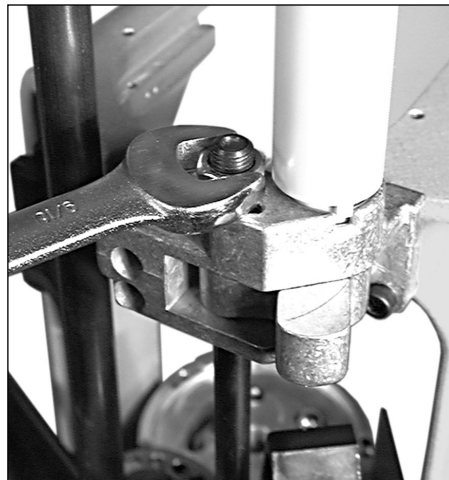

FIG 189
2. Using a 9/16" wrench, loosen the lock nut **FIG 189** on the camming pin.